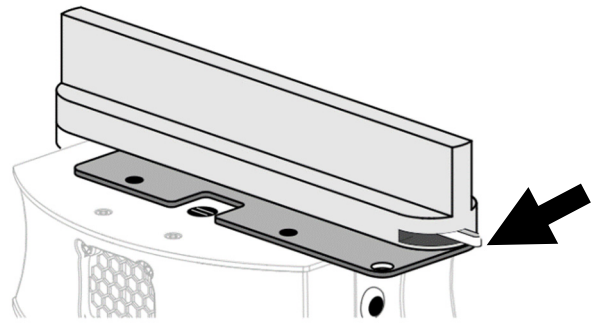

Figure 5. Main mechanical fastener
6. See Figure 5. At the end of the track adapter next to the wireless linking button, use the lever (arrowed) to close the main mechanical fastener. This will fix one side of the luminaire into the track and make the connection to the Neutral line inside the track. You must continue to support the weight of the luminaire until you have closed the other mechanical fastener – do not allow the luminaire to hang from one fastener only.